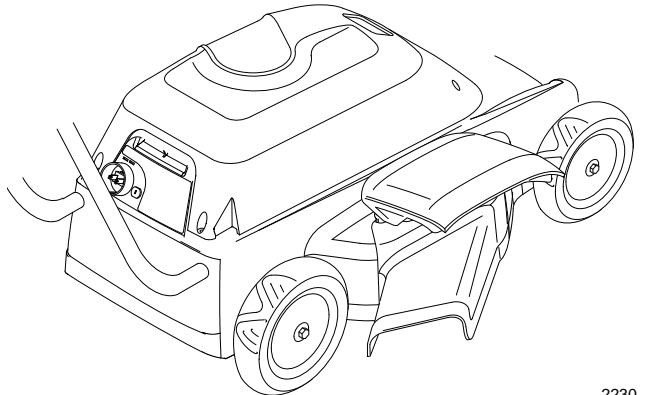

Figure 10
3. Lower mulch door on top of side discharge chute (Fig. 10).